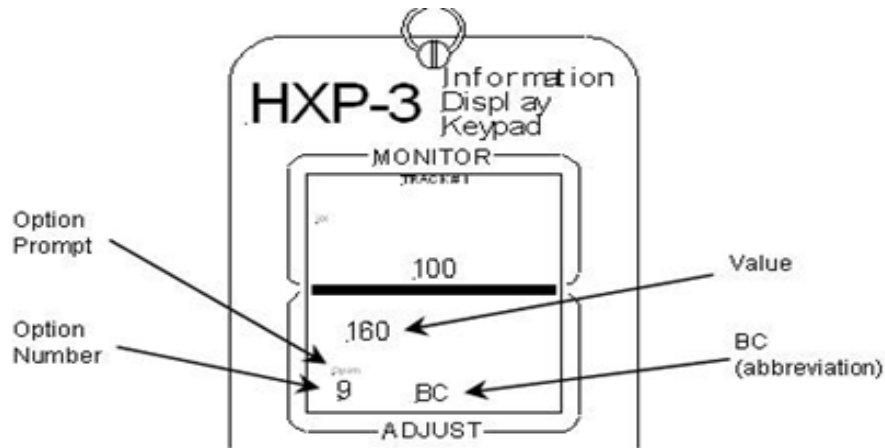

Figure 7 – HXP-3 Display Information Option 9
- 9.1 Press the OPTION button until Option 9 is selected, as shown in Figure 7, the OPTION Prompt flashes and “BC” is displayed.